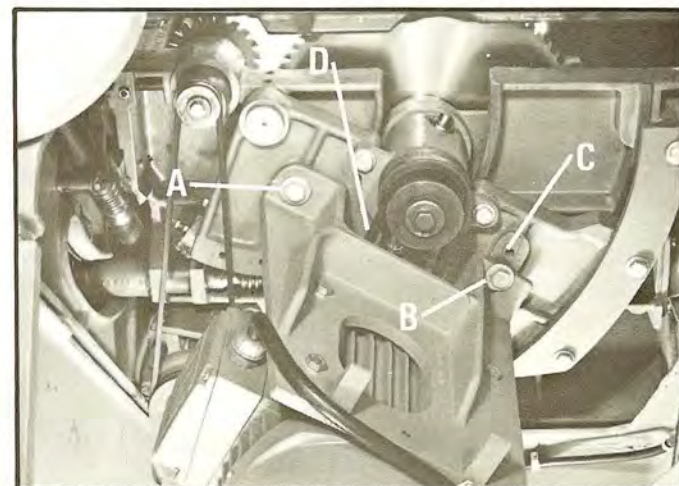

Fig. 39
2. Loosen hex head screws (A) and (B) Fig. 39.
3. Push motor and bracket up against hex head screw (B) Fig. 39, and tighten screw (B). NOTE: If additional adjustment is needed, move hex head screw (B) Fig. 39, to hole (C).
4. Position belts (D) Fig. 39, on the desired arbor pulley and motor pulley.
5. Loosen hex head screw (B) Fig. 39 and push motor down to apply tension to the drive belts. Tighten screw (B)